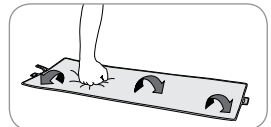

Fig. 27-Testing over-mattress sensor pad
**ALWAYS** check sensor pads when connecting them to a Posey alarm. You can check a pad by attaching it to the sensor cable outlet in the alarm, activating the alarm and placing pressure on the pad (Fig. 27). When the pressure is released, the alarm should sound. Repeat this pressure/release test in several different areas along the entire length of the sensor pad to ensure entire pad functions properly both with the bed in the flat position and the head and/or foot articulated. **If the alarm and/or sensor pad do not function properly, remove the alarm and sensor pad from service and replace them with a properly functioning alarm and/or sensor pad.** DO NOT use the alarm or sensor pad if it does not activate each time weight is removed from the sensor.